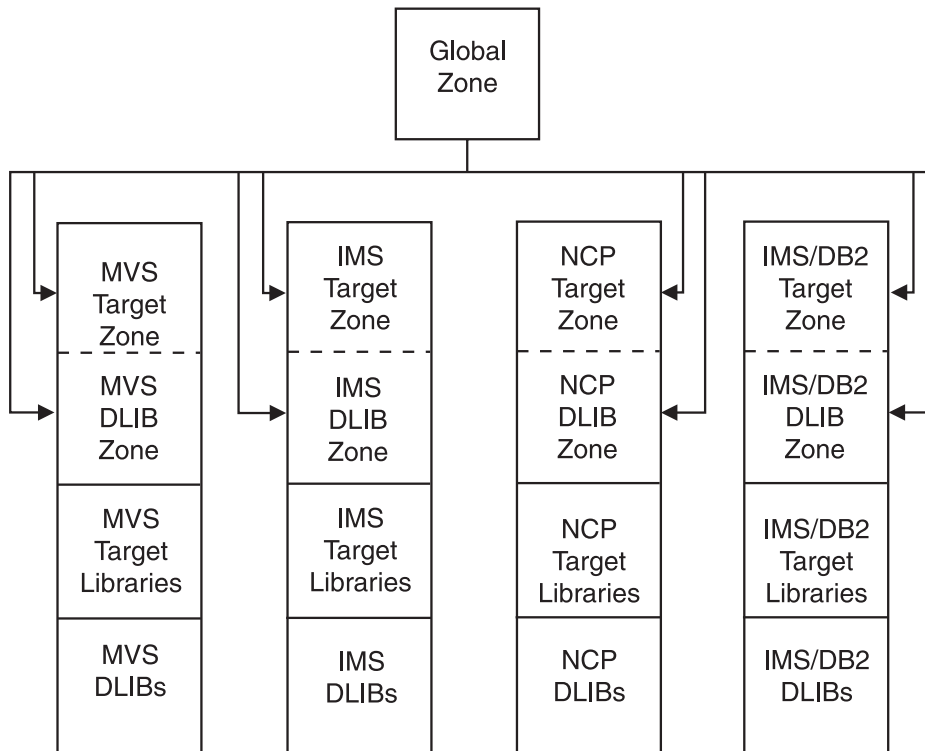

Figure 29. Using a master CSI and one CSI per SREL
*Example 5: Using a master CSI and one CSI per SREL:* In Figure 29 on page 58, one global zone is defined for the entire system in a master CSI, and separate CSIs are allocated for each SREL (MVS, CICS, NCP, and IMS/DB2). The target zones and DLIB zones associated with a given SREL are in the same CSI. This CSI structure provides the advantages of a common control point through one global zone (as in Example 2) and keeps the SMP/E control information physically associated with the libraries it describes. This is useful when you dump packs for backup.